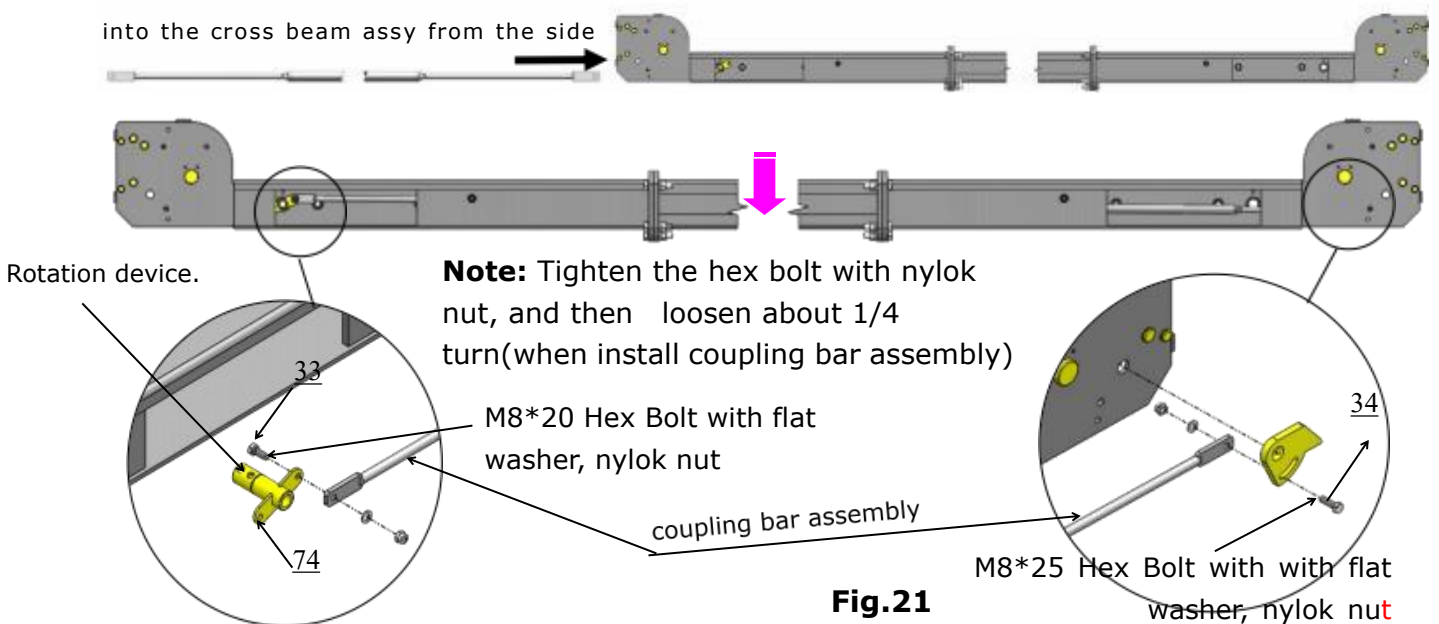

Fig.21
3. Bolt safety device coupling bar assembly with the cross beam assembly. Make sure the safety device works well. See fig 21.